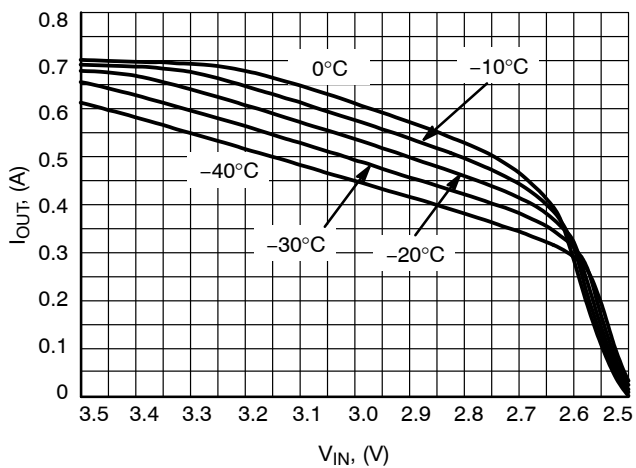

Figure 8. Output Current Capability when set at 2.5 V  $V_{out}$
- For output current capability for  $T_J < 0^\circ\text{C}$ , please refer to Figure 8.